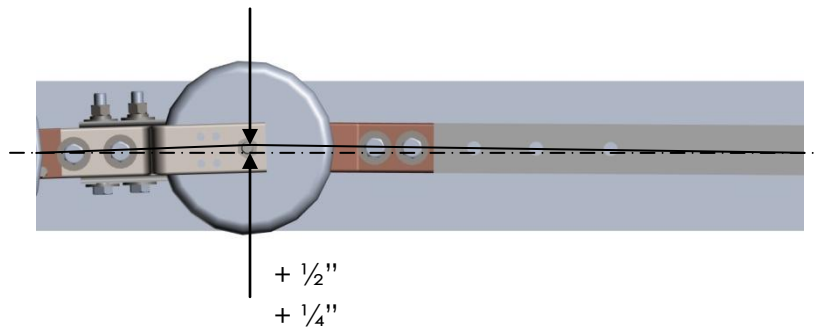

Figure 13: Left-handed Switch Blade Over Toggle
- 2) The switch blade over toggle should be between $\frac{1}{4}$ " and $\frac{1}{2}$ ". See Figure 13. If necessary, use the live parts close position stop bolt to adjust the over toggle.